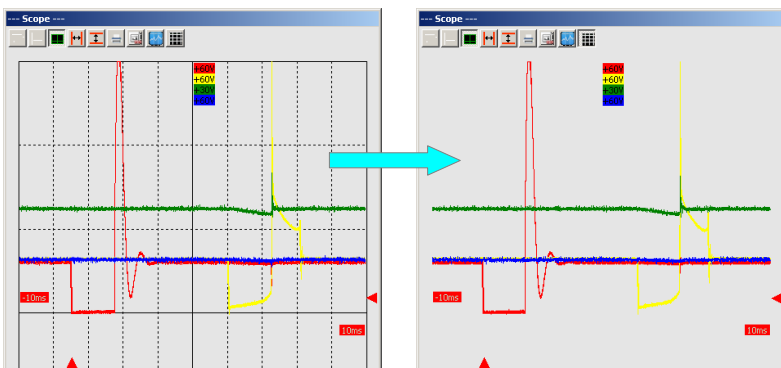

Figure 7.18
9. *Turn grid ON/OFF*: You can display or hide a grid in the main window. You can see windows both with grid and without in on the Figure 7.18.